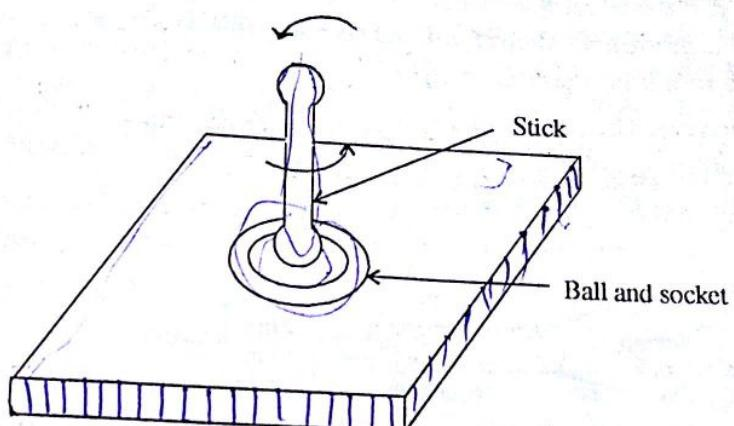

Fig. 1.18 Joystick
**4. Joystick** : It is an input device used in applications where high accuracy is not required. It has a electromechanical lever that, when manipulated moves the cursor. A joystick is basically a stick mounted on a spherical ball which moves in a socket. The stick can be moved left or right, forward or backward. Fig. 1.18 shows the diagram of a joystick.